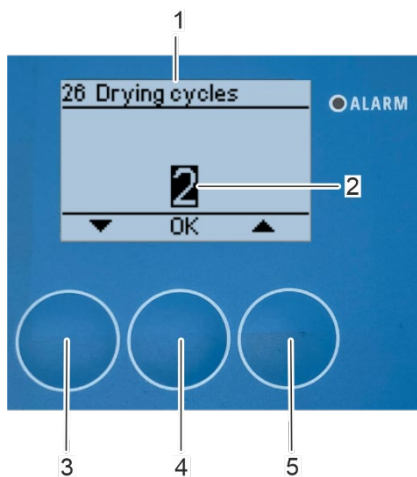

Fig. 137: Set drying cycles
⇒ The "26 Drying cycles" submenu appears on the display (Fig. 137/1).
3. Set the drying cycles (Fig. 137/2) with the arrow keys [up] (Fig. 137/5) and [down] (Fig. 137/3).
4. Confirm the setting with [OK] (Fig. 137/4).